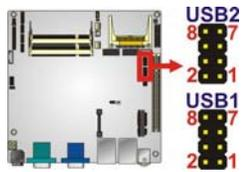

Figure 3-20: USB Connector Pinout Locations
- CN Location:** See **Figure 3-20**